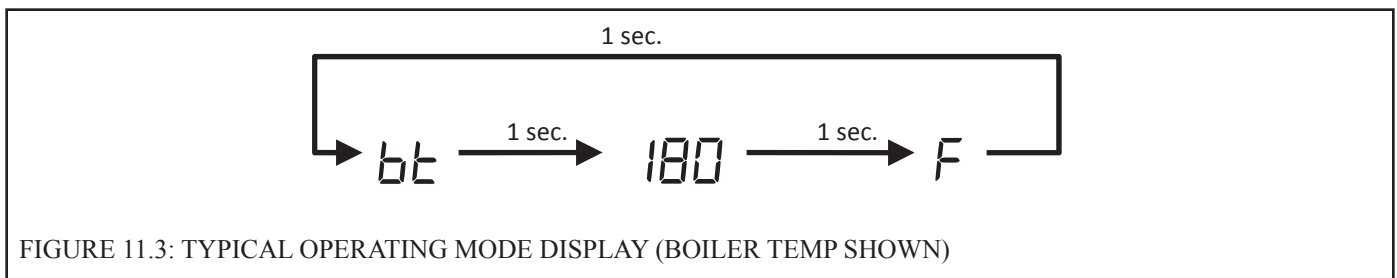

FIGURE 11.3: TYPICAL OPERATING MODE DISPLAY (BOILER TEMP SHOWN)
- 2) **Operating Mode** - Provides additional information about the current status of the boiler. Operating mode is entered by pressing the **I** button shown in Figure 11.0. When this button is first pressed in Status mode, the display will alternately display $b\text{E}$ and the current boiler water temperature as shown in Figure 11.3. Pressing the **I** button again will display the next line item shown in Table 11.2. In the same manner it is possible to advance through all of the “parameters” shown in Table 11.2. To return to Status mode, press **I** repeatedly until $5\text{E}9$ once again appears on the display. Alternatively, the control will return to Status mode if no key is touched for 30 minutes.
In operating mode, holding either the \uparrow or \downarrow button while viewing a given parameter will keep the display on the actual reading. For example, pressing \uparrow while reading boiler temperature as shown in Figure 11.3 will keep the display on 180 for as long as this button is held. This makes it easier to view readings “live” if they are changing rapidly